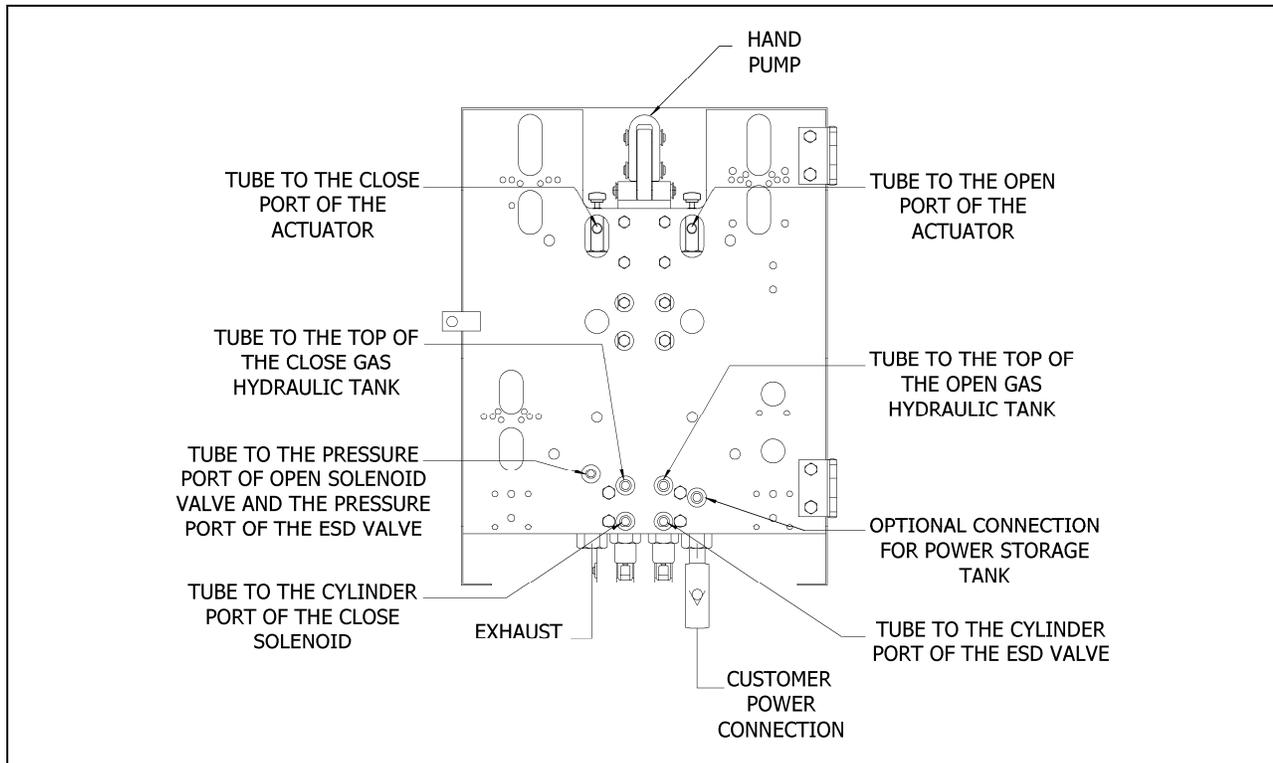

Figure 10A: View of the Control from the Back with Failsafe Fail Open (Schem. 8420-S)
25. If an optional Power Storage Tank is in use, find the optional connection for the Power Storage Tank to the right of the OPEN cylinder port of the Poppet Block Control Valve, when facing the back of the control. (See Figure 10A and 10B). Run tubing from this port to the top of the Power Storage Tank as originally plumbed.